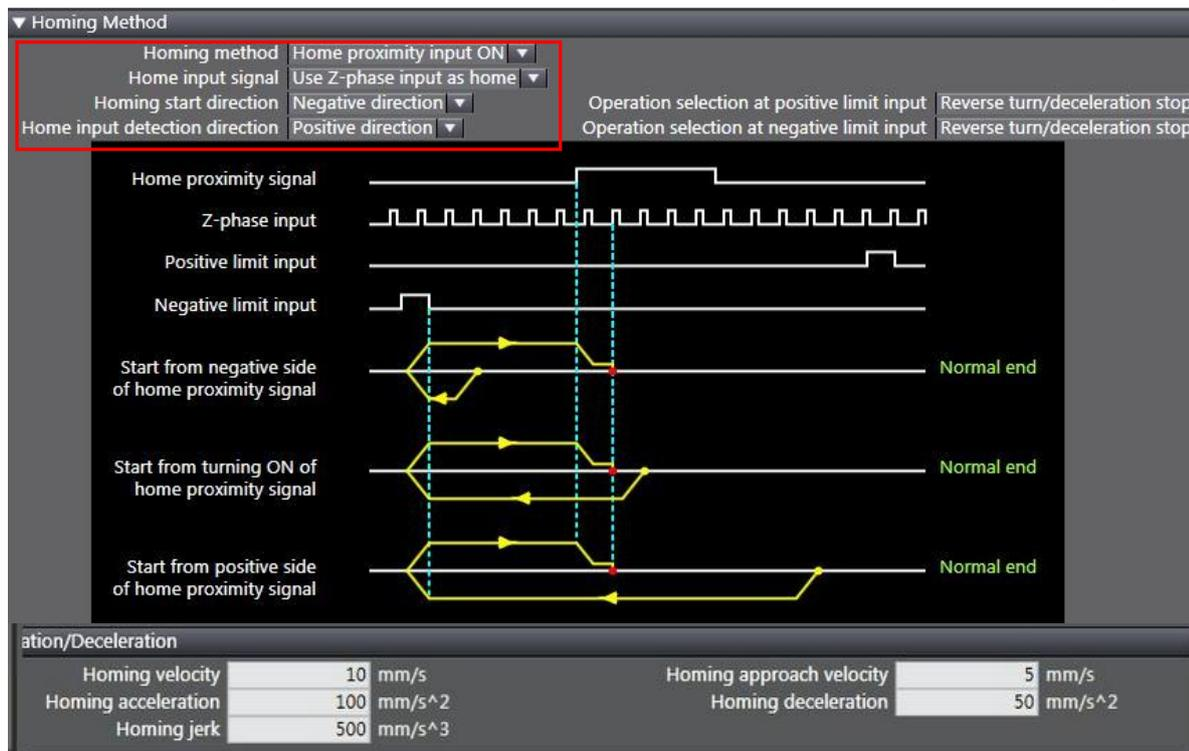

Fig. 5-48
- (6) Click the icon of “Homing Settings” (⊕) in “MC_Axis000 (0)” tab to open the “Homing Settings” page. Set homing method, homing velocity, and homing acceleration based on the actual demand. In the example of Fig. 5-48, “Homing method” is set to be “Home proximity input ON” and “Home input signal” is set to be “Use Z-phase input as home”.